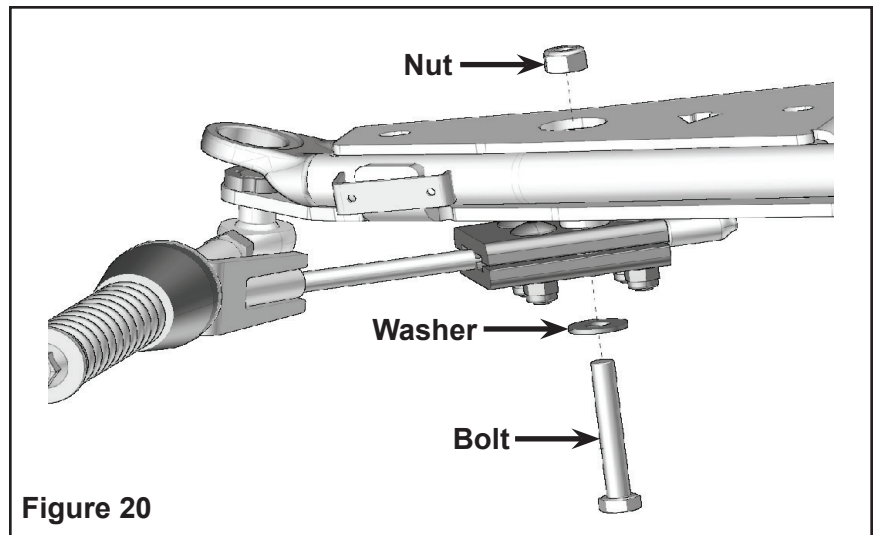
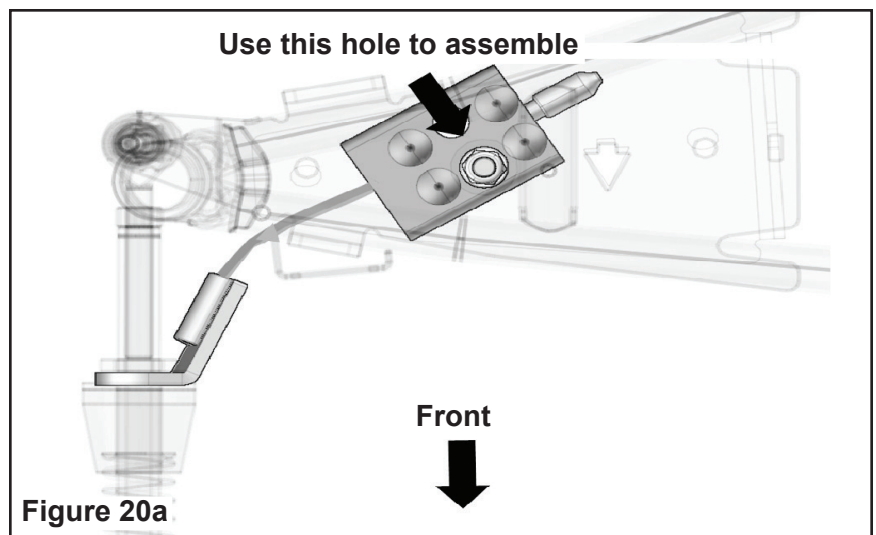

Figure 20
Figure 20a
10. Position aluminium blocks of steering limiter assembly at the center hole of bottom part of front anchor bracket. Use bolt, washer and nut to secure the assembly in the center of the anchor bracket. Tighten nut through central opening of top part to 37 ft. lbs. (50 Nm). Figure 20 and Figure 20a.